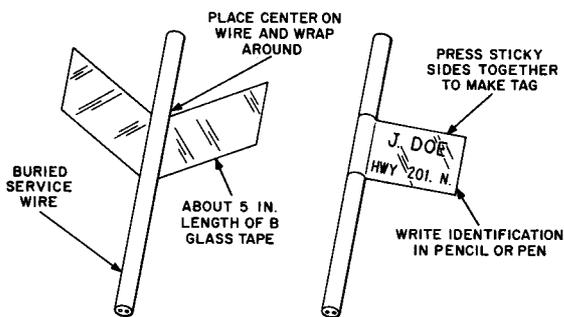

Fig. 1—Identifying Tags
1.10 Buried wires can be identified at terminations by means of tags made from B Glass Tape. Cut about 5 inches of glass tape and wrap it around the wire, pressing the sticky side against itself to make the tag. It can be readily marked with pencil or pen to show the customer or to identify the route of the buried wire, as shown in Fig. 1.